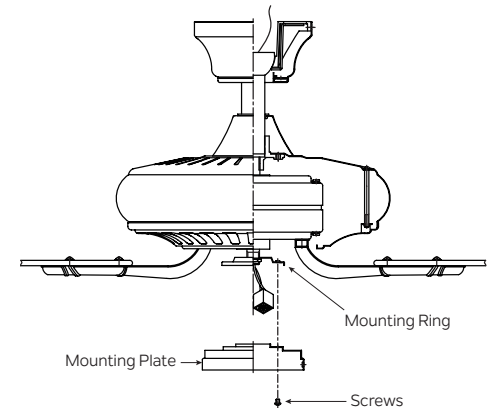

Fig. 16
**Step 1.** Loosen the two screws on the mounting ring attached to the motor shaft and “remove” and save the third screw. (Fig. 16)